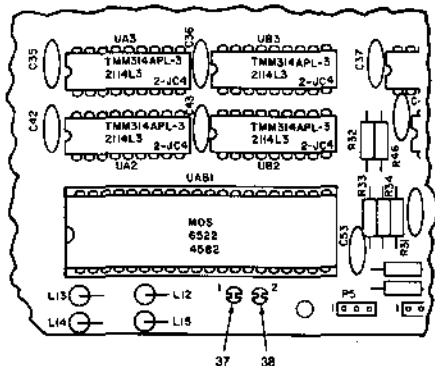
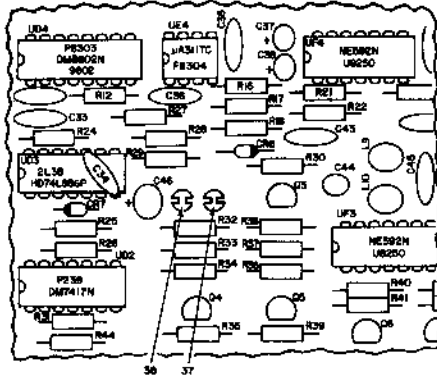
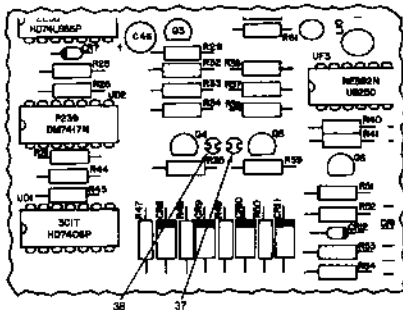

Fig. 1-12. Location of programming pads, Model 1540.
Fig. 1-13. Location of programming pads, Model 1541.
Fig. 1-14. Location of programming pads, Model 1542.
2. Locate the low-order programming pad (Item 37) and the high-order programming pad (Item 38). These programming pads may be located using Fig. 1-12 for the 1540, Fig. 1-13 for the 1541, and Fig. 1-14 for the 1542.